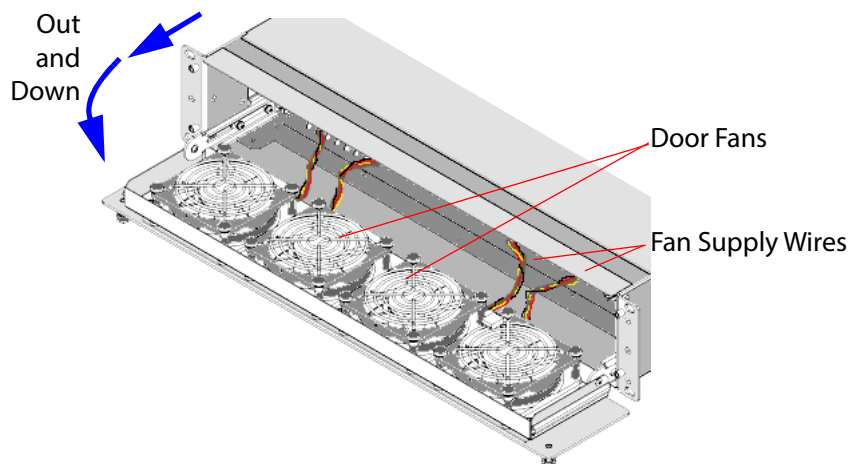

Figure 18 MV-820 Multiviewer - Front Door Open, Hinged Down
2. Pull the door outwards about 2 cm and then down. The door hinges along its bottom edge. See Figure 18. When the door is open, the door fans and the fan supply wires are visible.